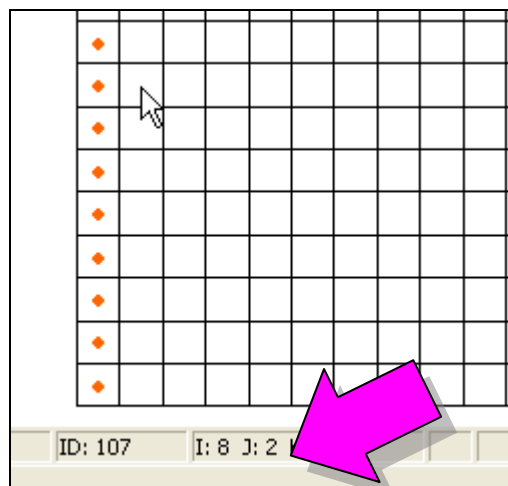

Figure 3 IJK indices of cell under cursor
2. Notice that as the user moves the cursor across the grid, the *ijk* indices of the cell beneath the cursor are displayed in the *Edit Window* at the bottom of the screen, as shown in Figure 3.